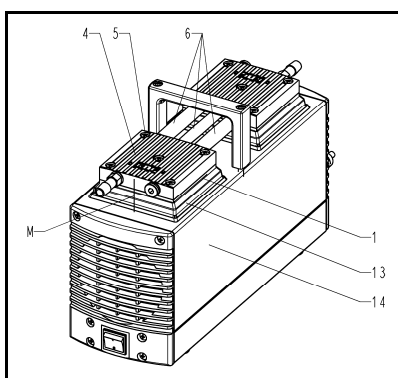

Fig. 4: Remove pump heads
- Position the pump head with the connection tubes (Fig. 4/6) so that the connection tubes are underneath the carrying handle (Observe mark **(M)**).